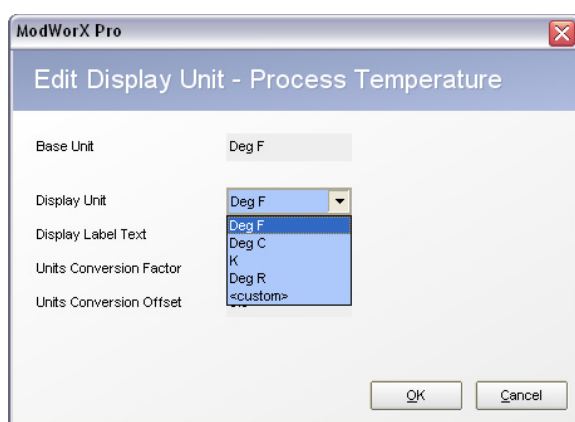

Figure 6.12
- a. Click **Edit**. The Edit Display Unit dialog will appear (Figure 6.12, page 84).